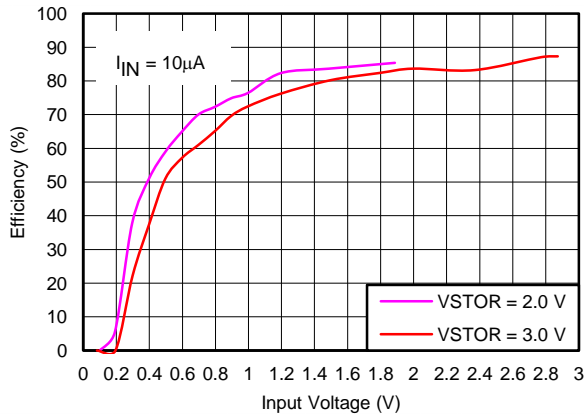
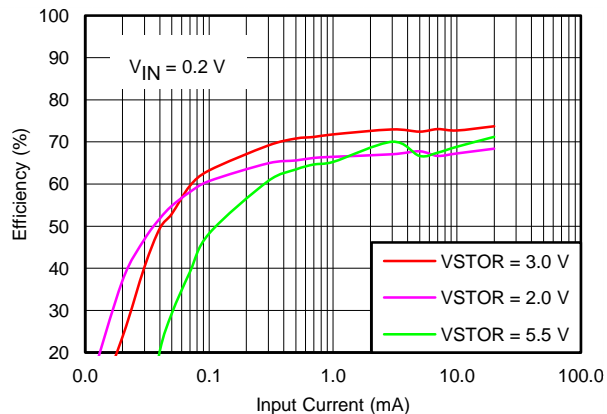

Figure 6. Charger Efficiency vs Input Voltage
Figure 12. Charger Efficiency vs Input Current
| Charger Efficiency (η) (1)                                                                                                                           | vs. Input Voltage                                                                                            | I N = 10 μA                            | <a href="#">Figure 6</a>  |
| V IN = 0.2 V                                                                                                                                         |                                                                                                              | <a href="#">Figure 12</a>                         |                           |
The bq25505's boost charger efficiency is shown for various input power levels in Figure 6 through Figure 12. All data points were captured by averaging the overall input current. This must be done due to the periodic biasing scheme implemented via the Nano-Power management circuitry. In order to properly measure the resulting input current when calculating the output to input efficiency, the input current efficiency data was gathered using a source meter set to average over at least 50 samples.